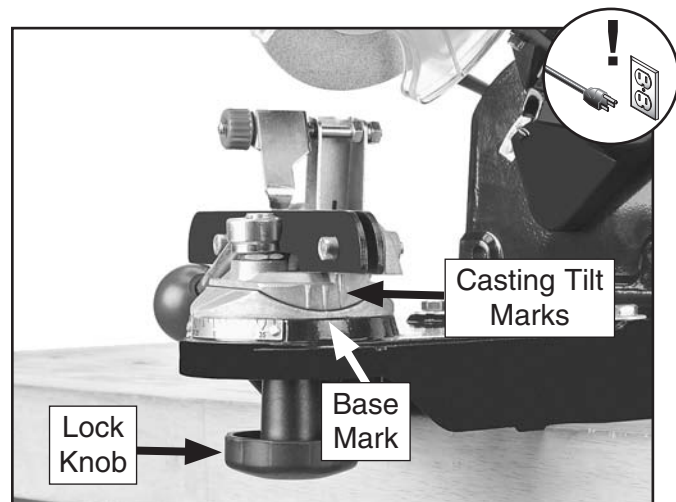

Figure 29. Aligning the chain holder tilt marks.
If your chain requires a 10° gullet angle, align the outside casting tilt mark with the base mark when sharpening right-hand cutters (see **Figures 29–30**). Conversely, align the inside casting tilt mark with the base mark when sharpening left-hand cutters.
2. Loosen the chain holder lock knob (see **Figure 29**) three or four rotations.